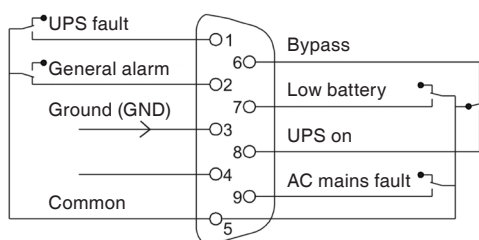

Fig. 10. AS400 dry contact pin-out.
- UPS has a dry contact card for the AS400 communication protocol, it provides digital signals in a free potential way, with a maximum applicable voltage and current of 240 V ac or 30 V dc and 1A. Pin-out of the DB9 connector are stated in figure 10 and detailed in table 5.